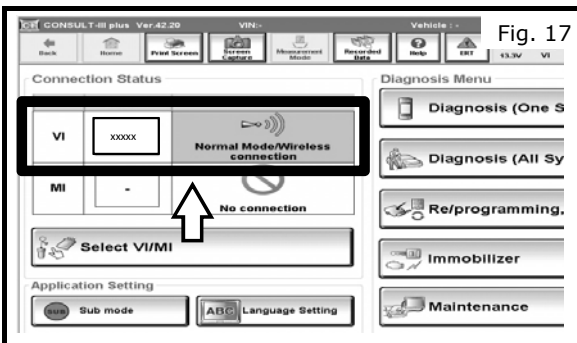

Fig. 17
- a) Start CONSULT III plus make sure VI is connected. VI serial number will appear in the VI section and the VI status will change to "Normal Mode" (green color) as shown in Fig. 17.